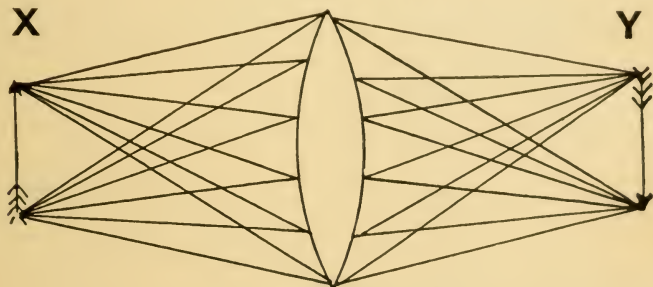

FIGURE 34
(47) All rays converging upon object X, in Fig. 34, that reach the surface of the lens will be refracted to meet again (be focused) at a point in image Y that corresponds to object X. At the image point the rays